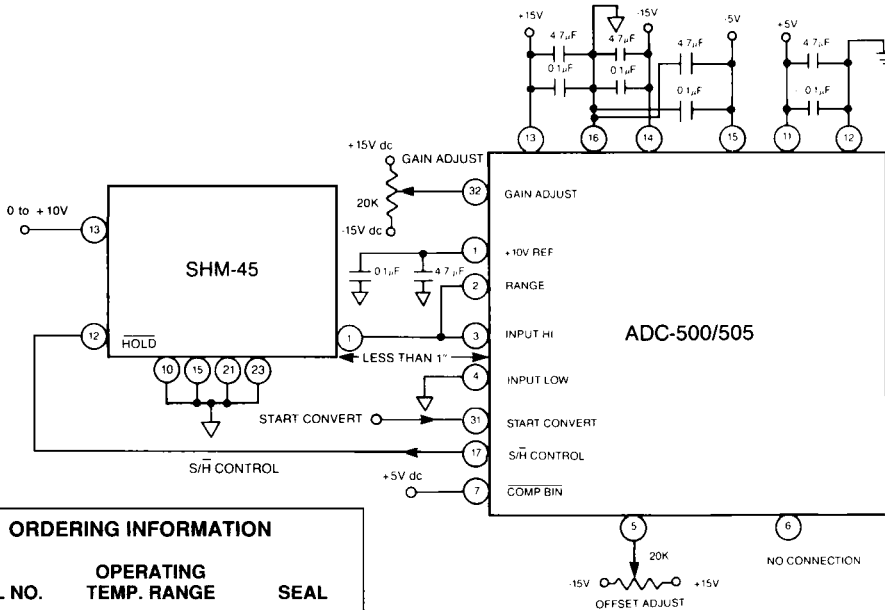

Figure 3. ADC-SHM Connection Diagram
- Requirements for $\pm 2.5\text{V}$ inputs can be satisfied using DATEL's AM-1435 amplifier in front of the SHM-45/ADC-500 configuration, shown in Figure 3, at the appropriate gain. The SHM-45's gain of 2 mode allows 0 to +5V or $\pm 5\text{V}$ input ranges.
1. Connect the converter per Figure 3 and Table 2 for the appropriate full-scale range (FSR). Apply a pulse of 50 nanoseconds minimum to the START CONVERT input (pin 31) at a rate of 500 KHz. This rate chosen to reduce flicker if LED's are used on the outputs for calibration purposes.